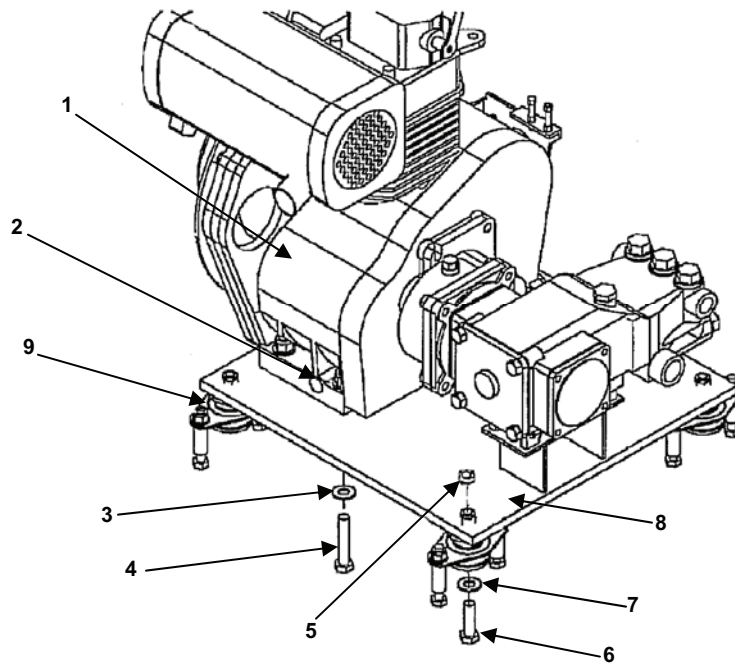

Figure 5. Diesel Engine Assembly.
7. Remove four nuts (Figure 5, item 5) and secure the center bolt (Figure 5, item 6) and rebound washer (Figure 5, item 7).
8. Lift and remove diesel engine with plunger pump/gearbox assembly and base plate from frame assembly. See Figure 5.
10. Remove four nuts (Figure 5, item 2), washers (Figure 5, item 3), and bolts (Figure 5, item 4) securing diesel engine (Figure 5, item 1) to base plate (Figure 5, item 8).
11. Remove diesel engine (Figure 5, item 1) from base plate (Figure 5, item 8).
1. Place the diesel engine assembly (Figure 5, item 1) onto base plate (Figure 5, item 8). Secure engine to base plate with four nuts (Figure 5, item 2), washers (Figure 5, item 3), and bolts (Figure 5, item 4).
2. Install diesel engine assembly (Figure 5, item 1) and mounting plate (Figure 5, item 8) onto vibration isolators (9).
3. Secure the base plate (Figure 5, item 8) to the vibration isolators (Figure 5, item 9) with bolts (Figure 5, item 6), washers (Figure 5, item 7) and four nuts (Figure 5, item 5).